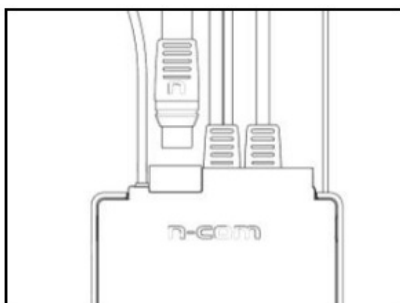

Fig. 6
- Line up the keypad flex connector to the e-box making sure that the letter “n” is pointing as shown in Fig. 6.
- **N.B.** If the system does not work, remove the flex and repeat the previous operation, making sure that the “ON” is positioned as in Fig. 6.